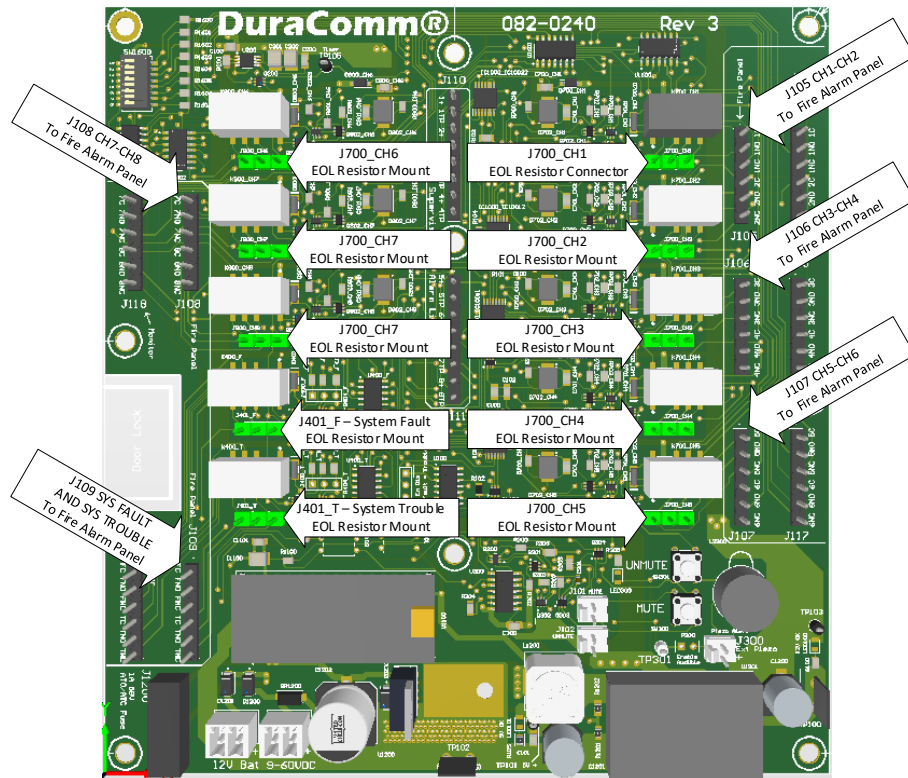
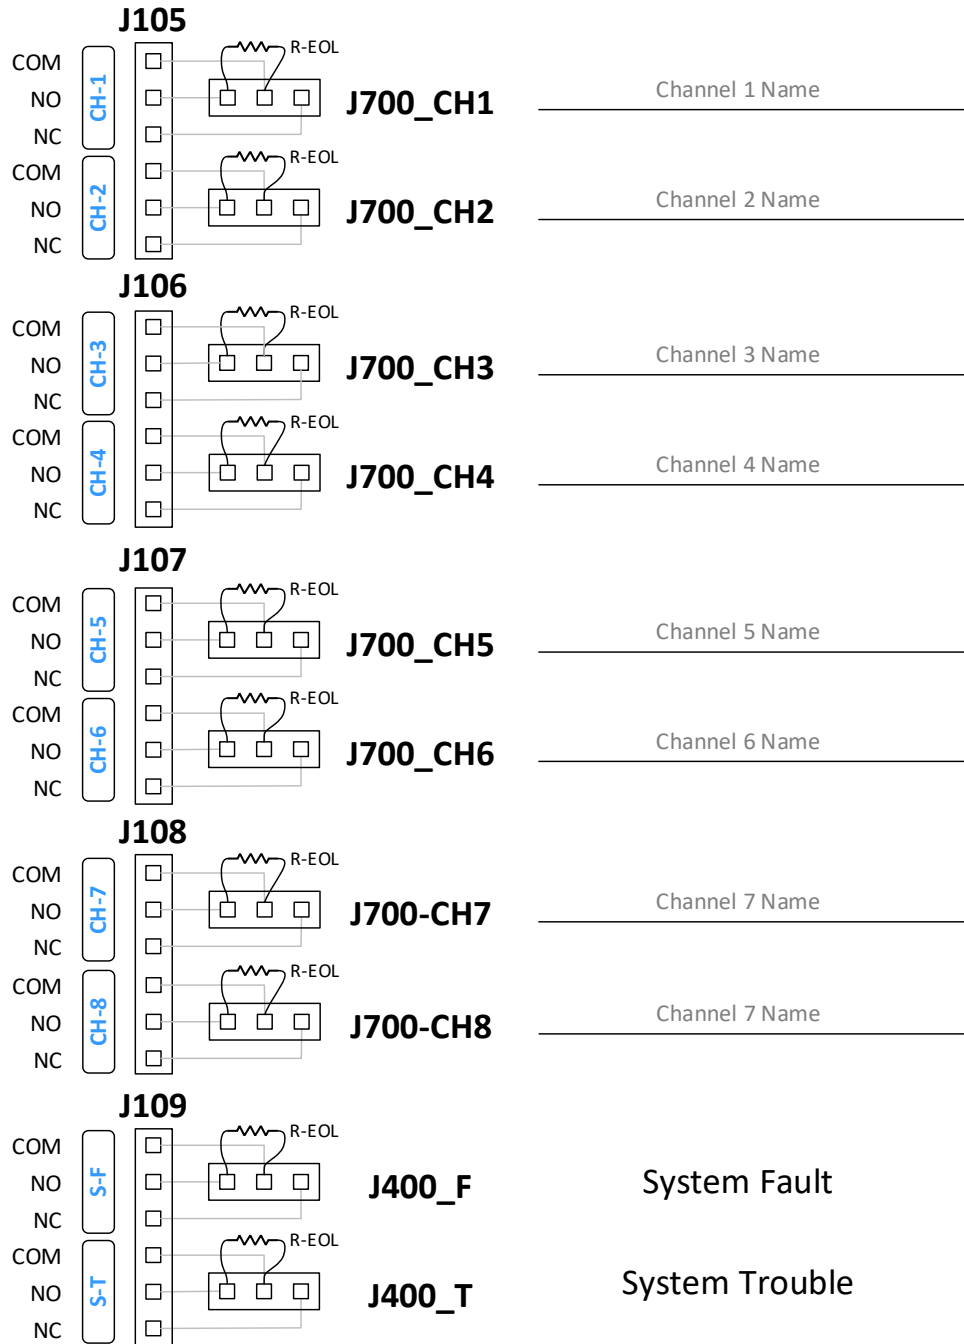

Figure 6: Fire Alarm Panel Connections and On-Board EOLs for Fire Alarm Connections
Figure 7: Fire Alarm Panel Connections
10. Install wiring to Fire Alarm Panel from connectors J105 to J109. See Figure 6 and Figure 7.
11. Install Fire Alarm panel EOLs on Connectors J700_CH1 to J700_CH8 (between COM and NO connections). See Figure 6 and Figure 7.